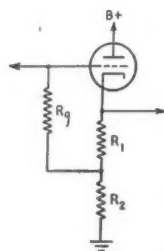

Fig. 17 — Cathode follower with Z_o matched to load.
From equation (33) it can be seen that the stage always operates with a gain of less than 1 and that the higher the value of R_k the closer to unity the gain becomes. The circuit in Fig. 17 is sometimes used to secure higher output voltages. In this circuit, R_k is divided into two parts, R_1 and R_2 , arranged so that the d.c. voltage drop across R_1 is equal to the required grid bias and, since the grid is returned to the junction of R_1 and R_2 , the correct bias will be obtained; the G_m will not change, but R_k will be increased and also the voltage output, from equation (33). Similarly, Z_o will be changed, from equation (34).
By using the arrangement shown in Fig. 17, a perfect match into a 72-ohm line can be obtained by making R_1 160 ohms and R_2 45 ohms. The gain, A , then would be